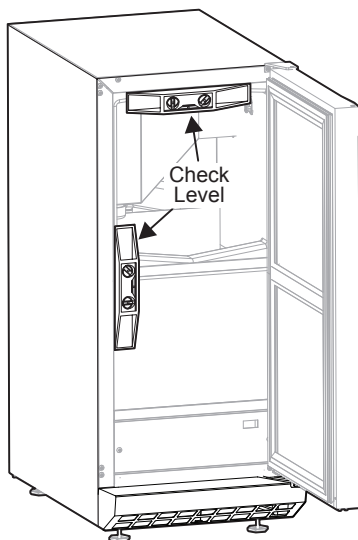

Figure 10
- 1 Use a level to check the levelness of the ice maker from front to back and from side to side (Figure 10).